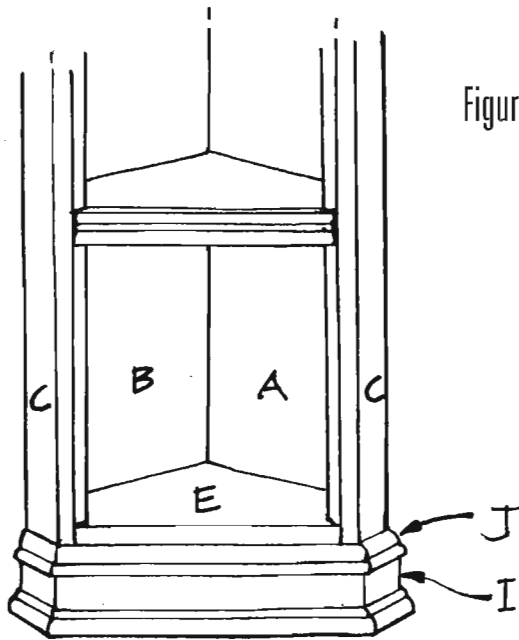

Figure 6
3. Standing each bottom trim piece (I) on its edge, miter one end of each of the shorter lengths and both ends of the longer piece. Set your saw to cut at  $22\frac{1}{2}$  degrees, producing an angle of  $67\frac{1}{2}$  degrees on the wood.
4. Attach the mitered pieces of molding along the bottom edge of the assembled cupboard, as shown in Figure 6. Use glue and 6-penny finishing nails, placing one nail every 3 inches. Countersink all of the nails.
5. Repeat steps 1 through 4, above, using screen molding (J) this time. Attach the cut and mitered strips of screen molding (J) directly above the decorative molding (I), as shown in Figure 6, using glue and finishing nails. Space the nails about 3 inches apart and countersink them.
6. Repeating the same process, attach  $3\frac{1}{2}$ -inch-wide decorative molding (K) along the top edge of the assembled cupboard over the shelf trim. Again use glue and finishing nails spaced about 3 inches apart. Countersink the nails.